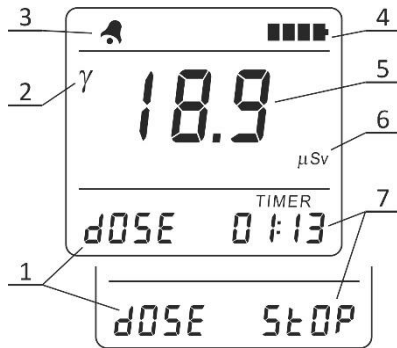

Figure 2.11 - LCD of the radiometer
2.3.3.9.1 The following information is displayed on the LCD of the radiometer (Figure 2.11):
- “dOSE” symbols (1) – an indication of the mode;
- “ $\gamma$ ” symbol (2) – an indication of the measured radiation type;
- alarm clock symbol (3) (if the alarm clock is on);
- battery status symbol (4);
- measurement result (5);
- dimension of measurement result (6)  $\mu\text{Sv}$ ,  $\text{mSv}$  or  $\text{Sv}$ ;
- DE accumulation time or “StOP” symbols (7).
When you change the type of radiation to “ $\gamma$ ” – the process of DE accumulation is restored. “StOP” symbols (7) on the LCD of the radiometer mean that the DE accumulation process was stopped (Figure 2.11).